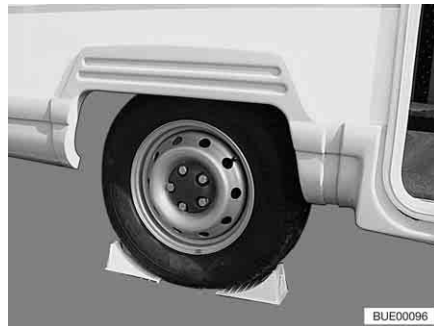

Fig. 256 Securing vehicle
- Place wheel chocks or other appropriate objects beneath the opposite wheel of the vehicle to secure it (Fig. 256).